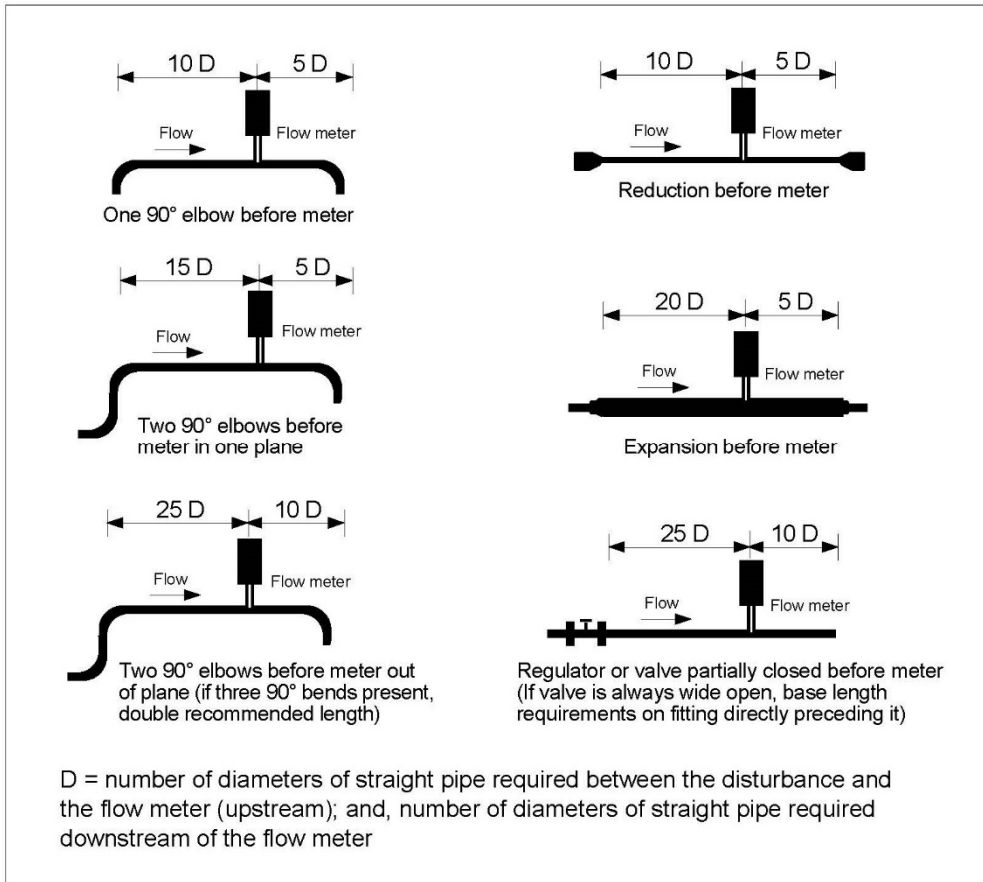

Figure 2. Recommended Pipe Length Requirements for Installation
3. The location meets the required minimum number of pipe diameters upstream and downstream of the sensor head (see Figure 2).
Select an installation site that will minimize possible distortion in the flow profile. Valves, elbows, control valves and other piping components may cause flow disturbances. In order to achieve accurate and repeatable performance install the flow meter using the recommended number of straight run pipe diameters upstream and downstream of the sensor given in Figure 2.
3. Verify the flow meter is installed with the correct number of upstream and downstream pipe diameters as shown in Figure 2.